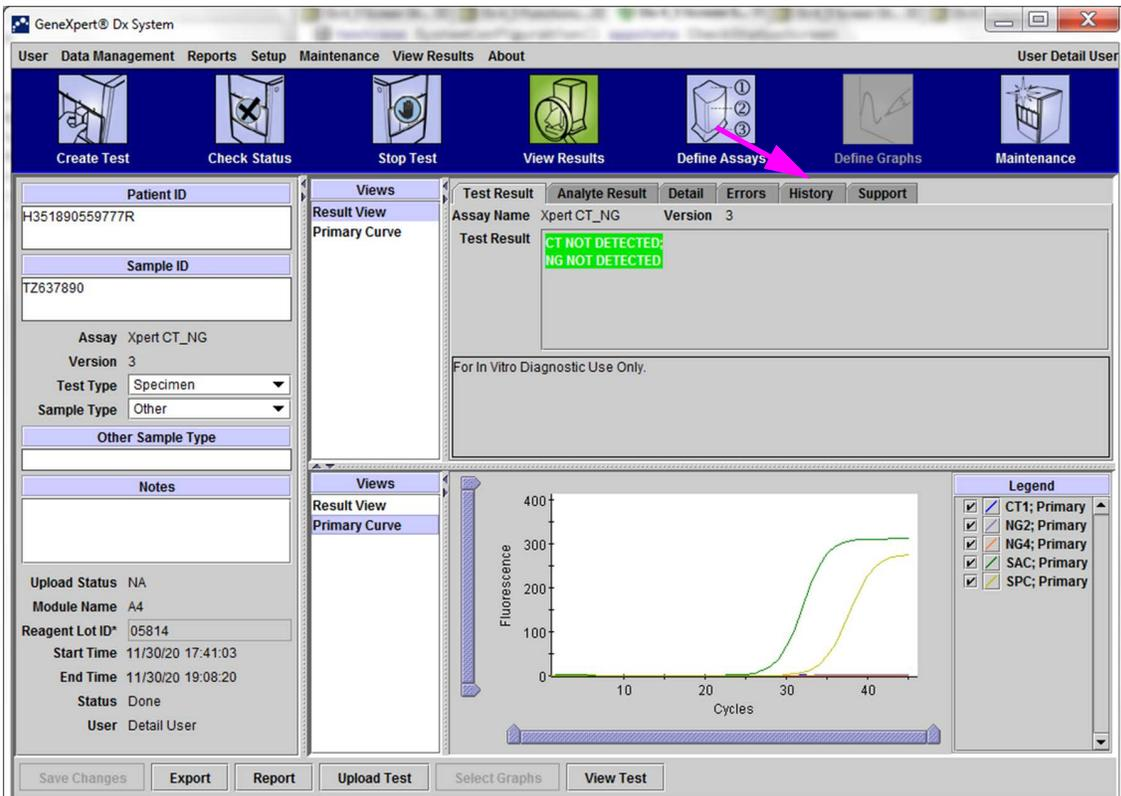
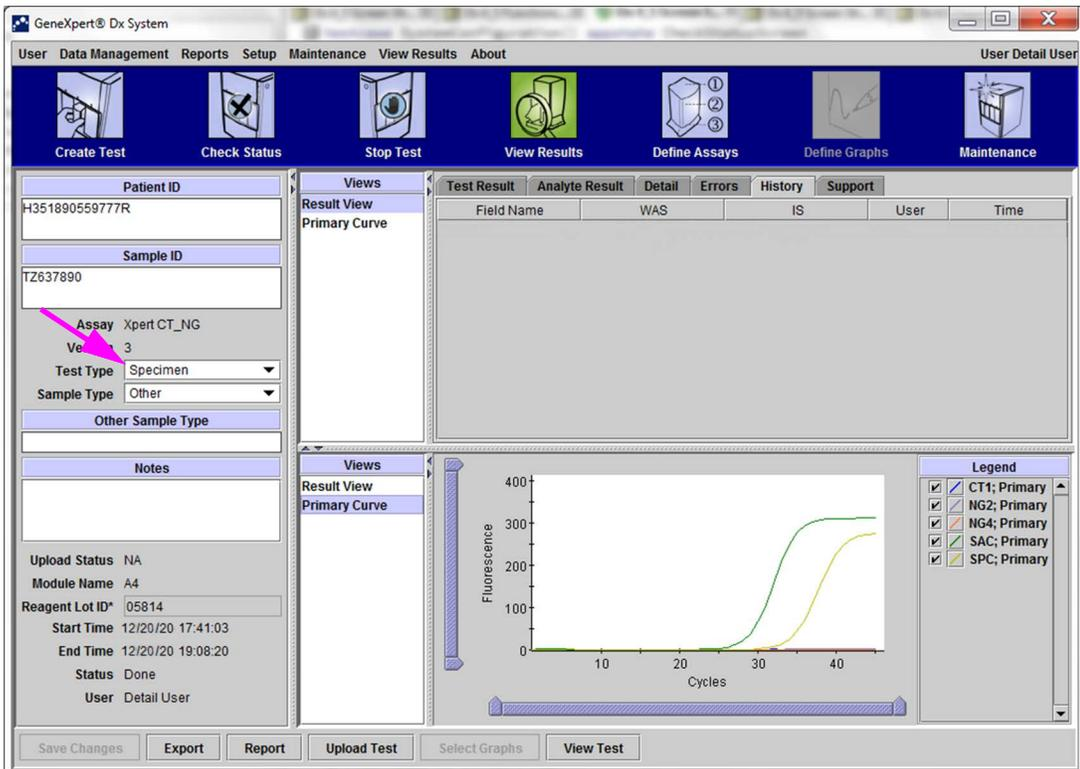

Figure 5-48. GeneXpert Dx System, View Results Window (Detail Users and Administrator View)
Figure 5-49. GeneXpert Dx View Results Window—History Tab Selected
2. Click the **History** tab in the View Results screen (see Figure 5-48). The **History** tab is displayed, showing that no changes have been made to the test. See Figure 5-49.